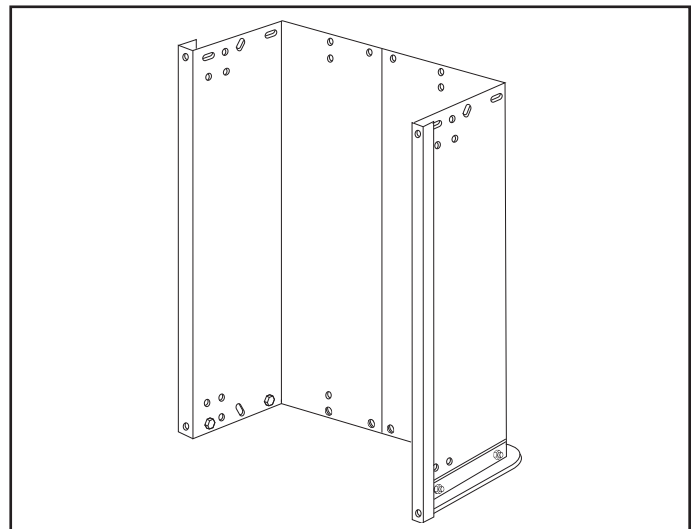

FIGURE 3
- Carefully flip the cart end for end so that it rests on the tailgate reinforcement bracket. See figure 3.